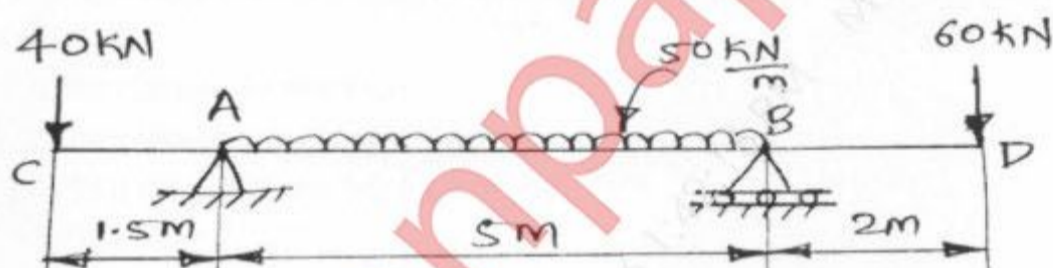

Figure 2
- Q. 3 A) A beam 8.5 m long rests on the supports 5 m apart, the beam carries load as shown in Figure 2. Draw SFD and BMD showing all the important points. (10)